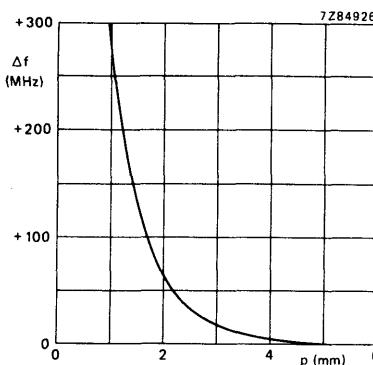

Fig. 4 Tuning of the oscillator as a function of the air gap between tuning screw and resonator: $f = f_0 + \Delta f$.
4. A small screw on the top of the oscillator allows a limited range of tuning. Turning the screw clockwise, starting from the flush position of the internal pin ($\Delta f = 0$), increases the frequency. When tuning up to 0,5% (i.e. approx. $\Delta f = +50\text{ MHz}$), the stability of the oscillator remains unaffected; above that value the df/dT of the oscillator gradually increases due to Q-degradation of the dielectric resonator. A typical tuning curve is given in Fig. 4.